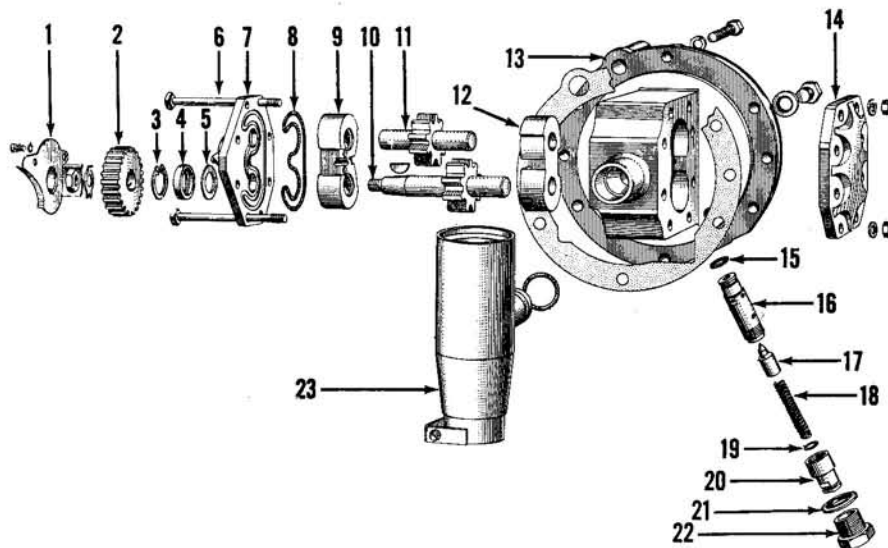
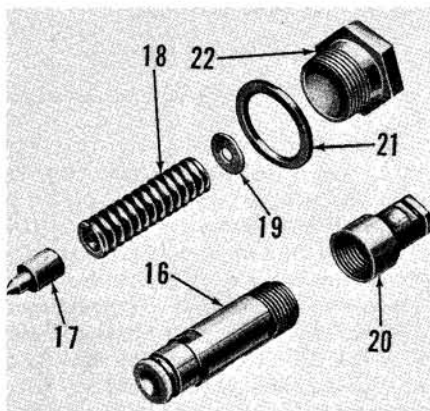
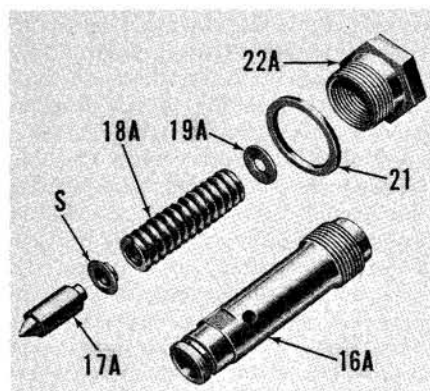

Fig. FO568—Exploded view of hydraulic pump assembly with intake strainer.
Fig. FO568A — Exploded view of early production pressure relief valve assembly. Refer to Fig. FO568 for legend.
Fig. FO568B — Exploded view of late production pressure relief valve assembly.
**NOTE:** The pump relief pressure will depend upon whether the pump is fitted with the early type relief valve shown in Figs. FO568 and FO568A or the later type relief valve shown in Fig. FO568B. Although individual components are not interchangeable, the new type relief valve assembly shown in Fig. FO568B may be installed in prior production tractors to raise the pump relief pressure from 2100-2300 psi to 2450-2500 psi. Factory installation of the later type valve was effective at Fordson Dexta Tractor Serial No. 957E-49624.
To adjust the relief valve pressure, add or remove shims (19—Fig. FO568A or 19A—Fig. FO568B) as required. Shims are available in 0.005, 0.010, 0.015 and 0.025 thickness for early type valve and 0.010 and 0.025 for late type valve. Adding or removing 0.005 in shims will change the relief pressure approximately 50 psi. Note: Do not increase the total shim pack to more than the recommended 0.080.
The pump inlet strainer (23—Fig. FO568) is retained to left side of rear axle center housing by a dowel screw. When reinstalling the hydraulic pump, first clean the inlet strainer and make sure the strainer
**103. OVERHAUL.** To disassemble the hydraulic pump, first remove drive gear shroud (1—Fig. FO568) and unbolt and remove the driving gear (2) from pump drive shaft (10) with a suitable puller. Remove the Woodruff key from the pump shaft, examine the shaft and remove any nicks or burrs which might damage the pump bearings. Remove nuts, washers and bolts retaining pump end plates (7 and 14) and remove the plates.